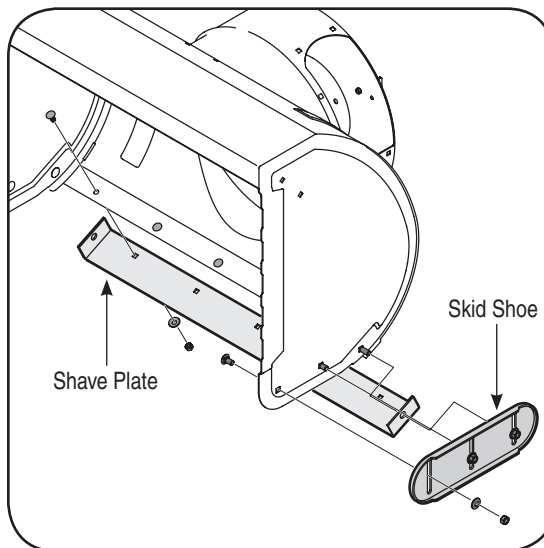

Figure 6-3
1. Remove the six carriage bolts, hex nuts, and bell washers that secure the two skid shoes to the sides of the auger housing. Refer to Figure 6-3.